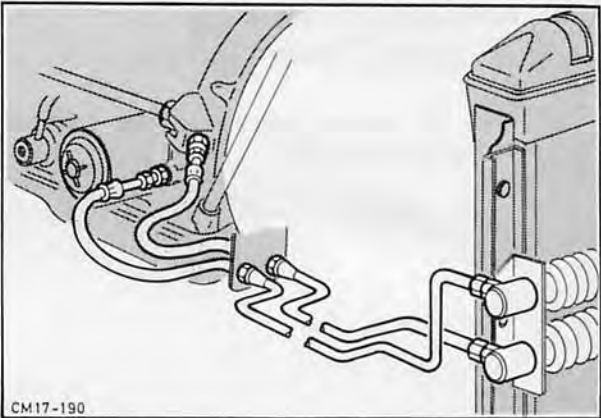

Fig. 35. Connect oil pipes to transmission
32. Remove plug and attach oil pipes to transmission, Fig. 35.